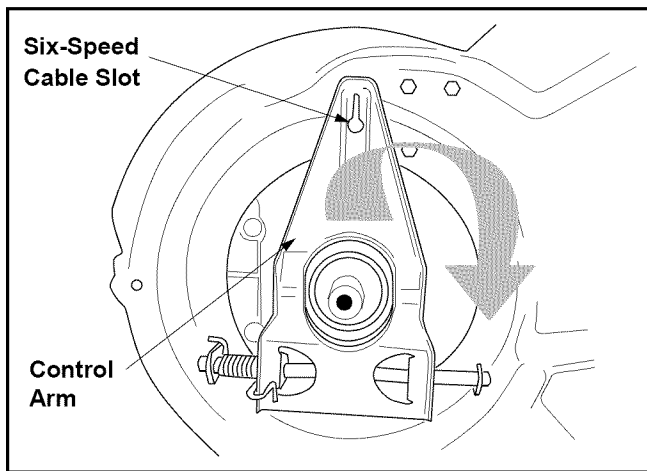

Figure 24
- Pivot the control arm back to its original position and reinstall the six-speed cable into the slot. See Figure 24.